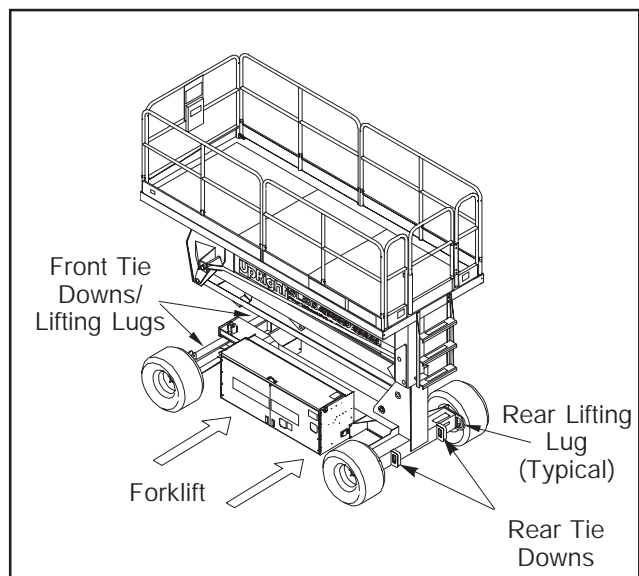

Figure 5: Transporting Work Platform
Forklift from side of Chassis by lifting under the Chassis Modules (Figure 5).
1. Secure straps to Chassis Lifting Lugs only (Figure 5).
2. Secure the work platform to the transport vehicle with chains or straps of adequate load capacity attached to the chassis tie down lugs (Figure 5).